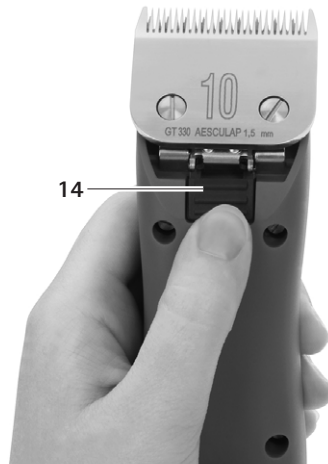

Fig. 3
- Press blade lock 14, see Fig. 3.